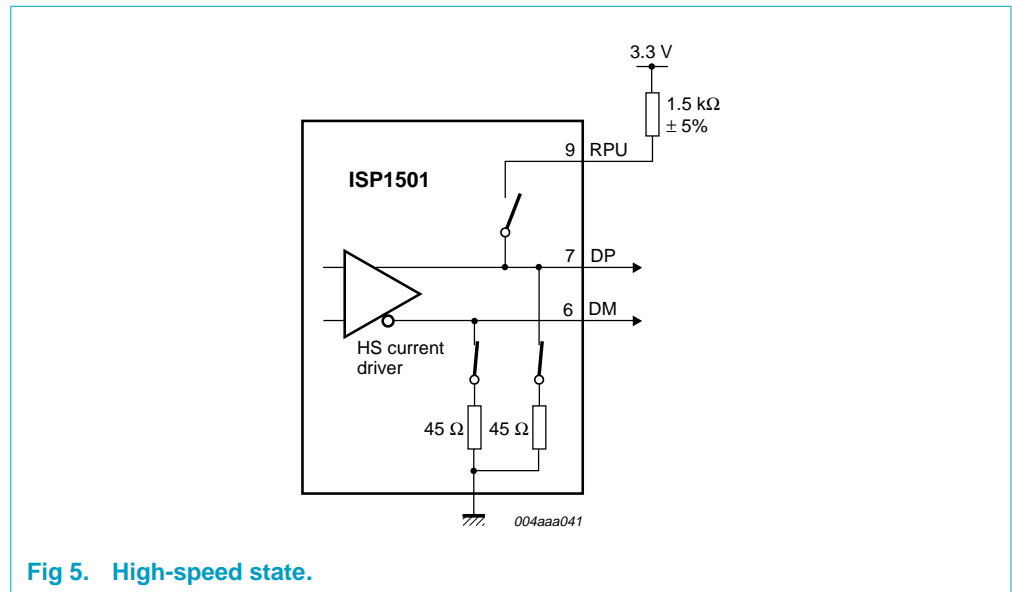

Fig 5. High-speed state.
**8.2.3 High-speed (HS) state**
In the high-speed (HS) state, internal 45 Ω resistors on the DP and DM lines are connected to the ground. The pull-up resistor is disconnected. The HS transceiver is enabled, and the parallel interface and the HS-handshake signals are used (see Figure 5).